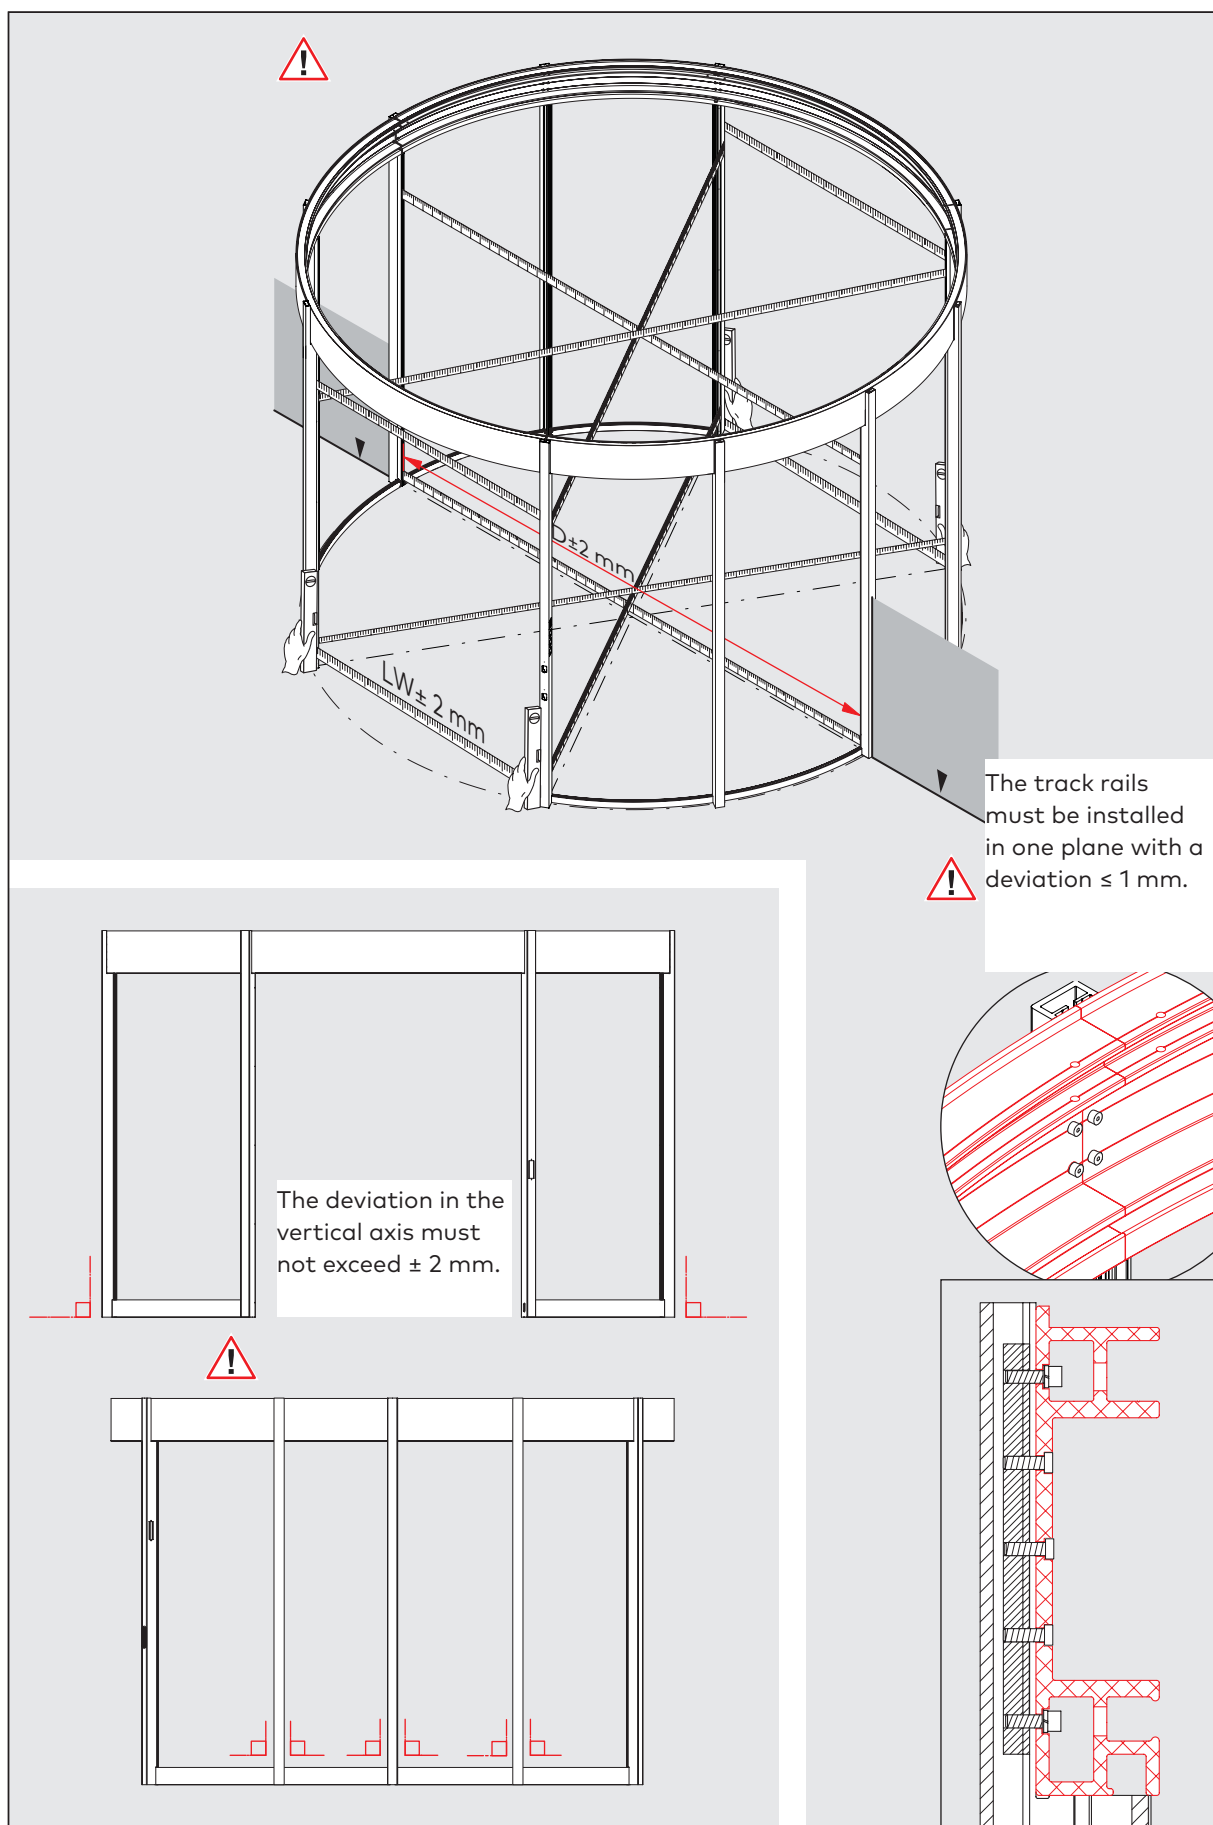

Fig. 35 Checking the frame
8. Check the dimensions of the revolving door (Fig. 35).